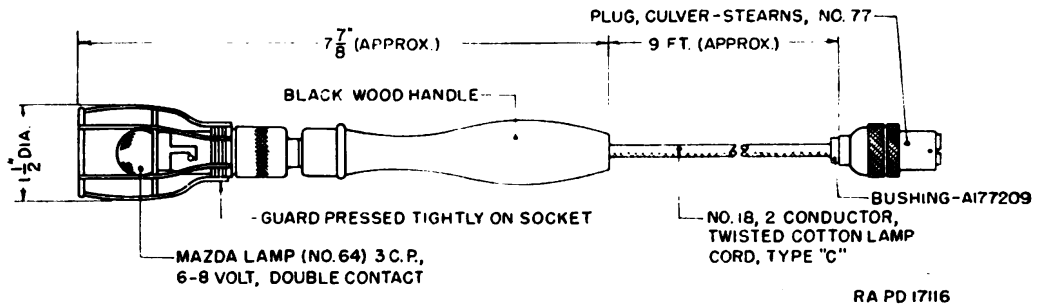

FIGURE 13. Trouble lamp.
c. A trouble lamp (B135896) is furnished (fig. 13). This has a 3 cp, 6- to 8-volt double contact lamp (No. 64), a lamp guard, a handle, approximately 9 feet of cable, and a plug for plugging into socket (A41452).